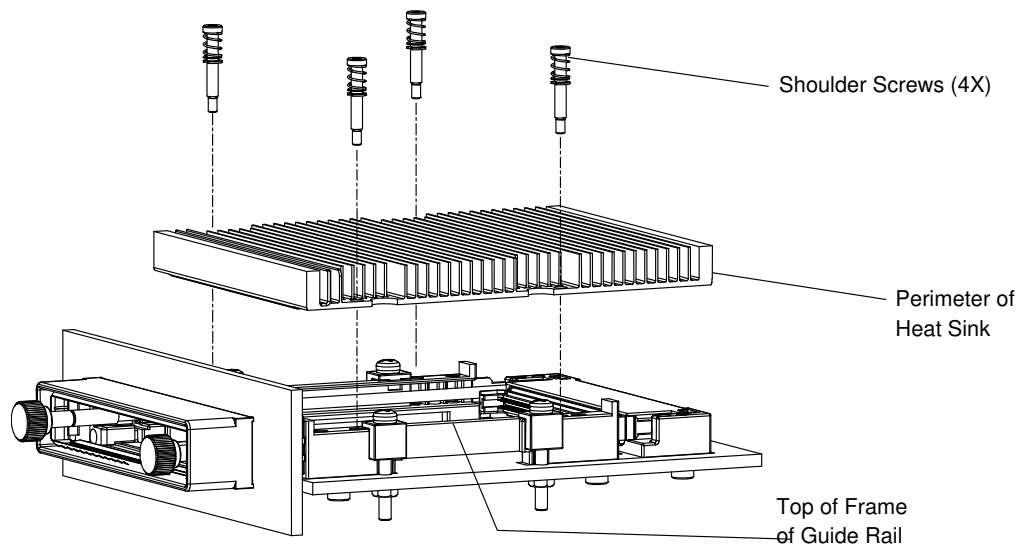

Figure 9
3.19. Mounting Heat Sink (Figure 9)